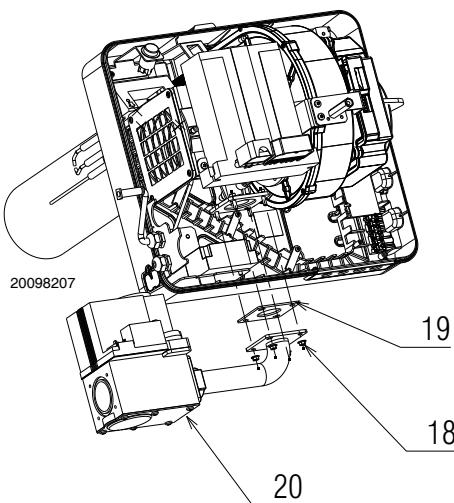

Fig. 8
- Fix the train assembly 20)(Fig. 8) using the 4 screws 18)(Fig. 8) provided.
- Be aware of the presence of the gasket 19)(Fig. 8) and the gas seal.